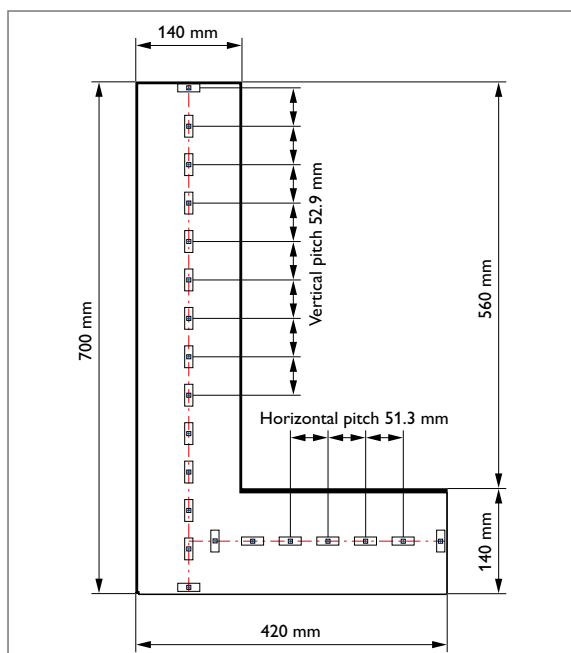

Fig. 35 LED mounting positions
2. Start mounting the first LED string device driver as close to the side of the channel letter as possible (fig. 35). In this way, dark corners are prevented.